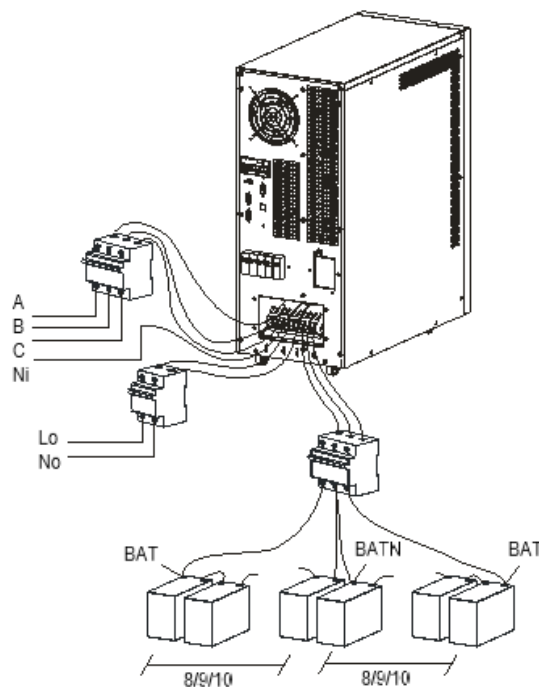

Fig. 4-3 10k/15k/20k External battery connection
- 4) Connect battery pole with positive pole, common pole and negative pole to battery connector (BAT+, BATN, BAT-), **don't reverse battery connection** (Fig. 4-3).